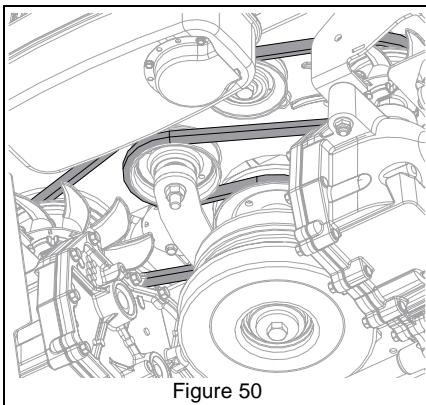

Figure 50
1. Install ground drive belt. See Figure 50.